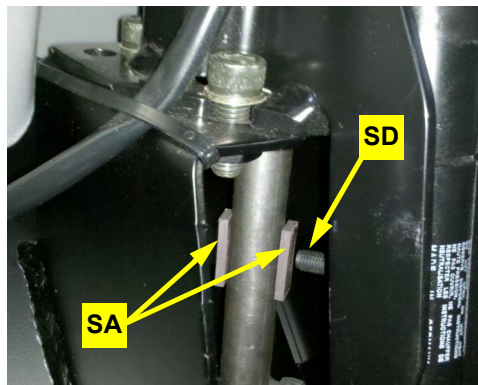

Figure 2c: Installed magnets
- c. Using hardware **WH**, install the link rod assembly from step 1 between the last hole in WAS arm **WC** and bracket **WL**. Set the swivel studs upward into **WC** and **WL** (Figure 2c). Leave **WH** loose.
- c. Using the two-part epoxy SB attach the magnets SA 180° apart on the steering shaft. Align the center of the magnets with the tip of the switch sensor (Figure 2c).